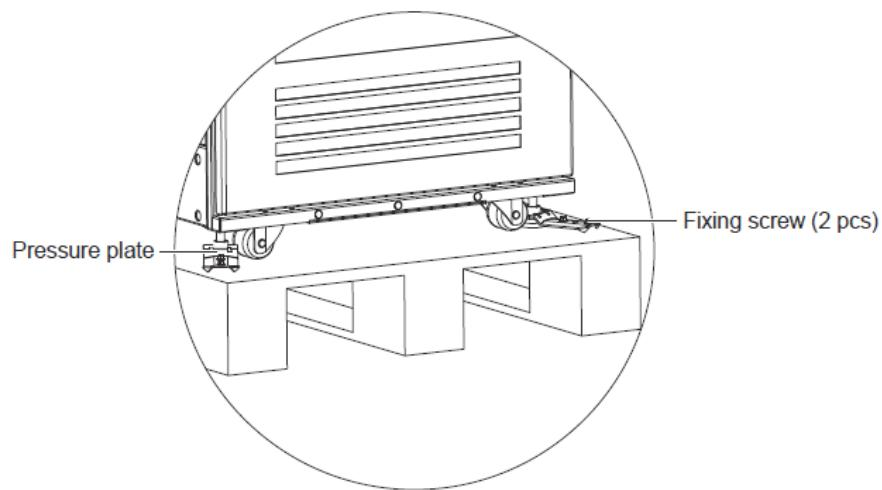

Figure 2-10 Removing the Feet Pressure plate
- Remove the fixing screws on the pallet using a sleeve or movable wrench followed by removing the pressure plate as shown in Figure 2-10.